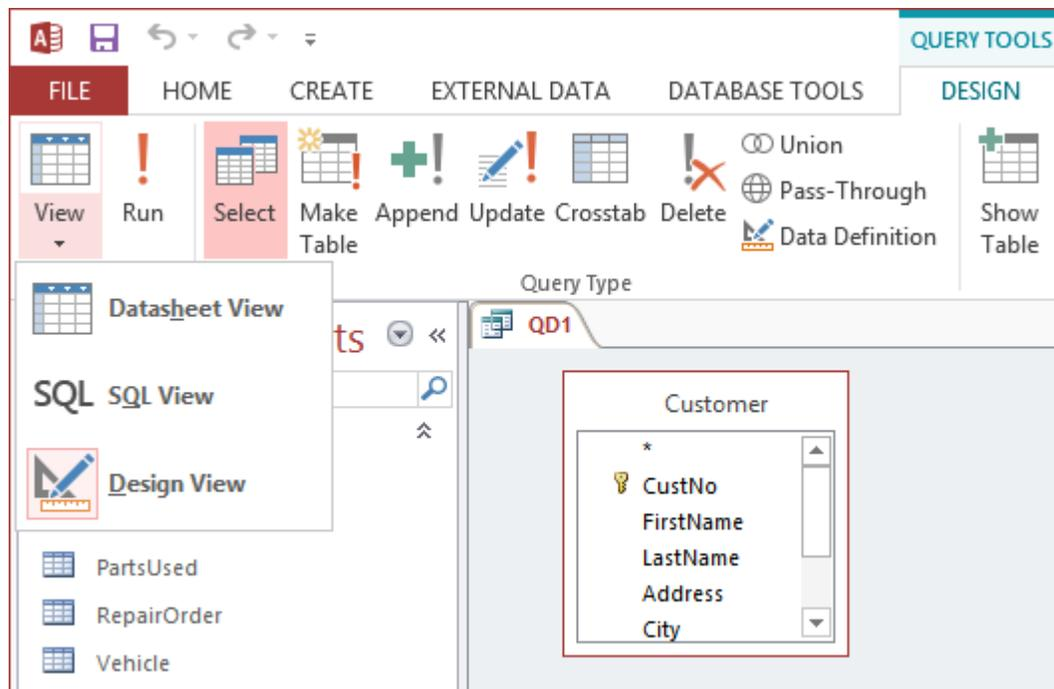
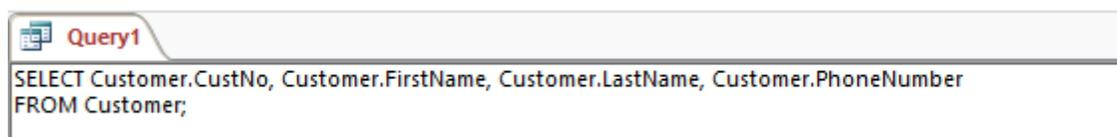

Figure 6: View Menu Showing the SQL View Command
Figure 7: SQL View for “QD1”
2. Accessing the SQL Window: With the Query Design view open, click **View** → **SQL View** (see Figure 6) in the **Design** tab of the Ribbon. The SQL view appears (Figure 7) in the view pane.
- Use the query tools: With Query Design view open, you will see Query Tools in the ribbon. Choose **Query Tools | Design → View** in the Results group (Figure 6) and the three view choices appear.